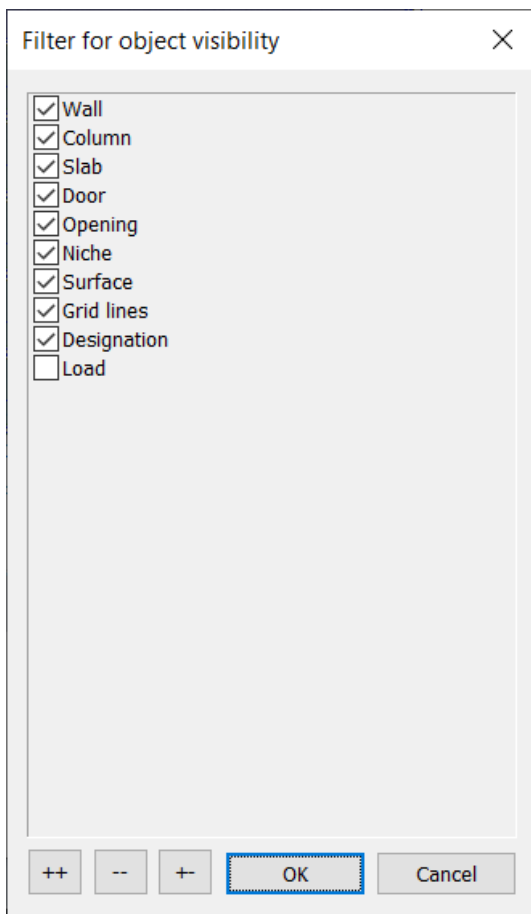

Figure 23.42. **Filter for object visualization** dialog box
- ⇒ In the **Filter for object visualization** dialog box (see Fig. 23.42), clear the **Load** check box.